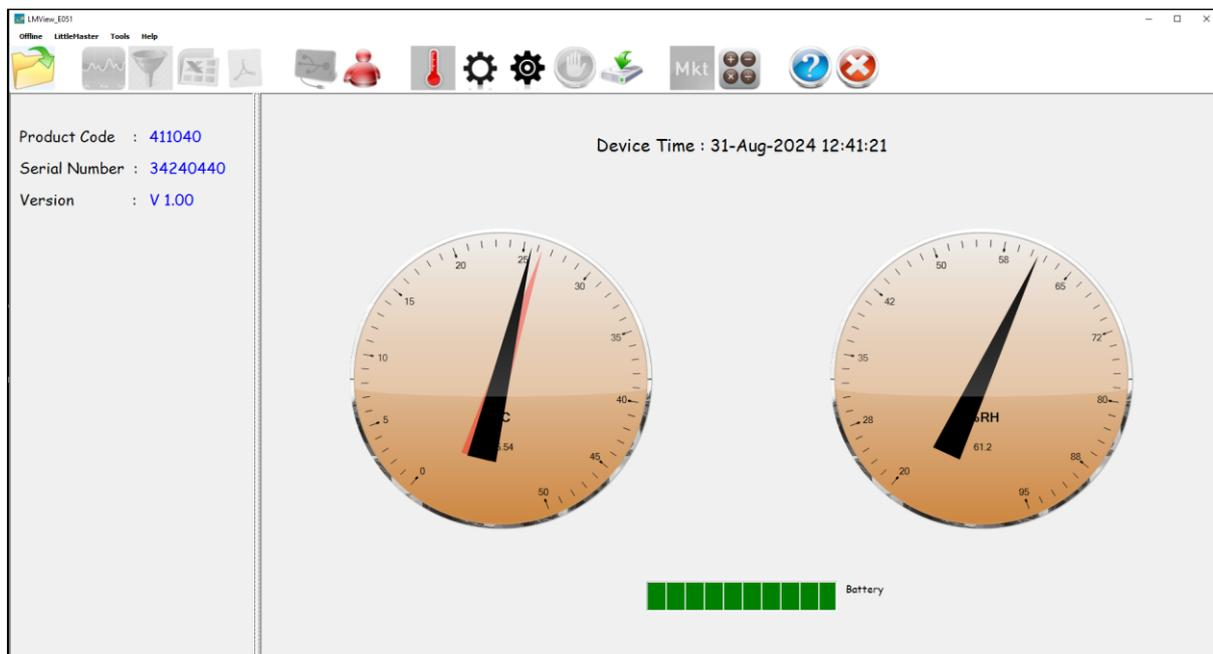

Figure 13 Current Temperature & Humidity reading of the LMPro H Data Logger
- Click on USB  icon to connect the device with the LMViewE051. The current Temperature and Humidity reading, Battery level and UTC time of the device will be seen as shown in figure 13.